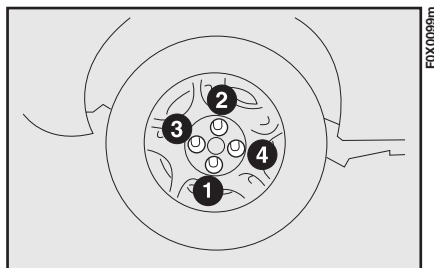

fig. 118
- 14) Fully tighten the bolts, passing alternately from one bolt to the opposite one, following the order illustrated in fig. 118.